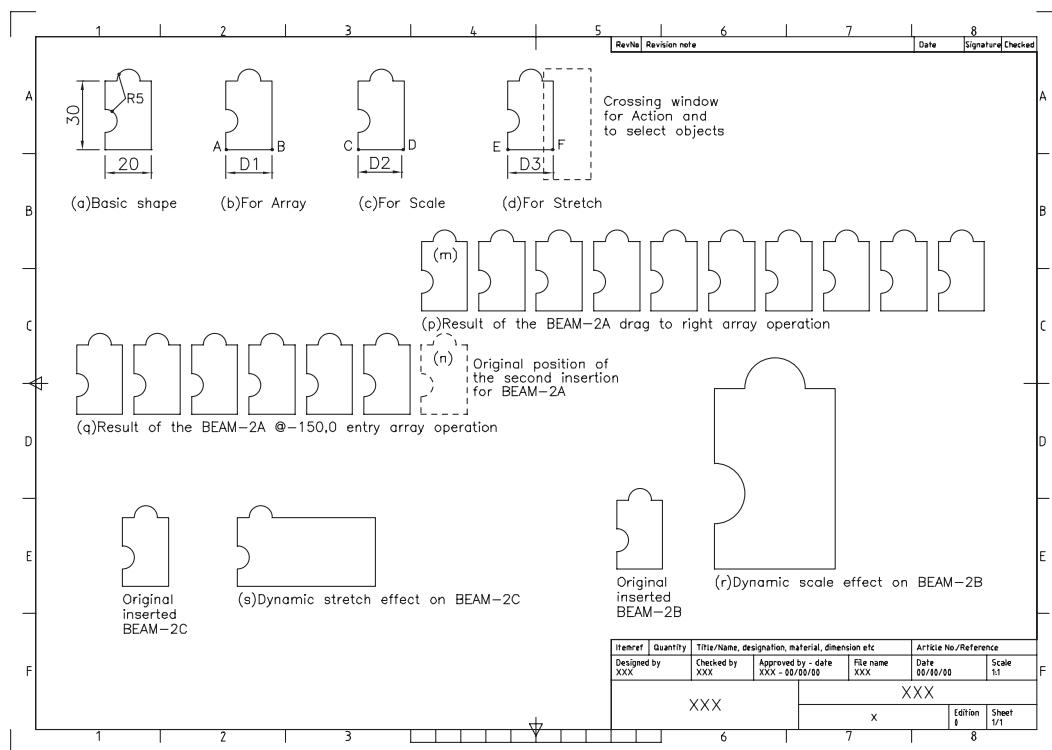

Figure 30.5 Dynamic exercise 2.
- 3 Refer to Figure 30.5 and:
a) draw the basic shape as Figure 30.5(a)
c) start and end points: pick endpoints A and B as Figure 30.5(b)
d) label location: pick as D1 in Figure 30.5(b)
- g) select a suitable insertion point towards the centre of the screen as Figure 30.5(m).
- 6 Repeat the insertion command and insert BEAM-2A below the first insertion as Figure 30.5(n).
- 8 The results of these two single row arrays are displayed in Figure 30.5(p) and (q).
- a) add a linear parameter between points C and D as indicated by D2 in Figure 30.5(c)
- e) pick the beam, make a grip hot and drag out a scale effect as Figure 30.5(r).
- a) add a linear parameter between points E and F as indicated by D3 in Figure 30.5(d)
2. add a crossing effect as Figure 30.5(d) for the action and the objects
- g) pick the inserted block, make the displayed grip hot and drag out a stretch effect as Figure 30.5(s).